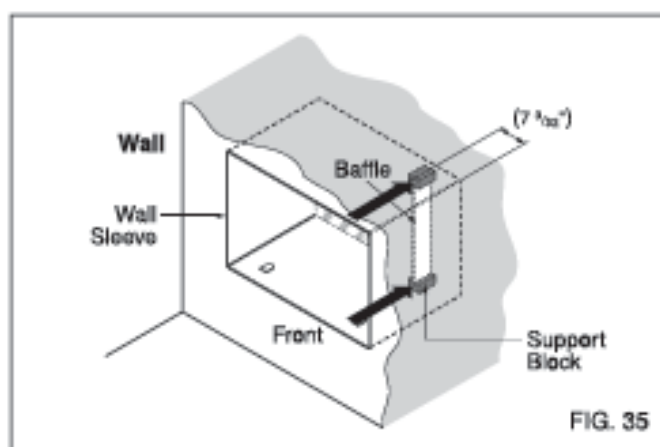

FIG. 35
- 6** Remove the backing from the support blocks and attach them to the inside of the wall sleeve as shown FIG 35. Slide the baffle into slots of the support blocks